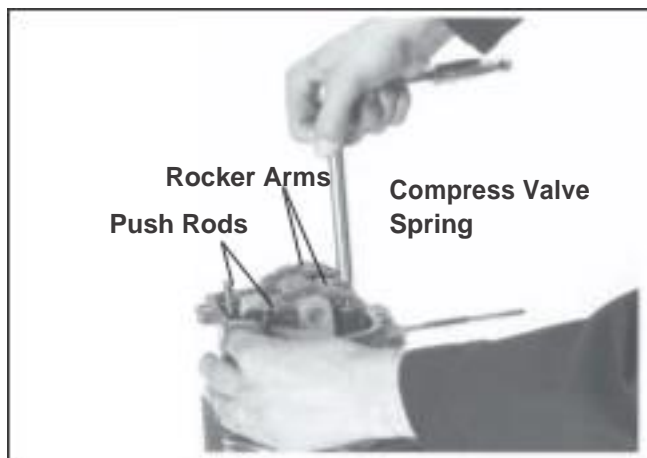

Figure 11-36. Installing Push Rods Under Rocker Arms (Rocker Bridge Style Heads).
4. Rocker Bridge Heads - Figure 11-36